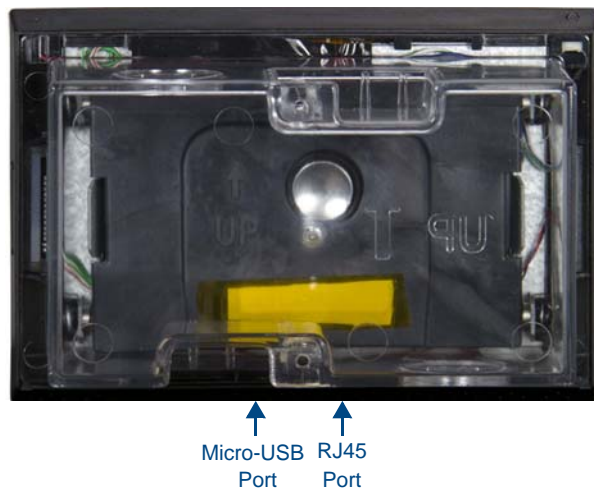

FIG. 11 Rear of the MSD-431-L
9. Insert each connector into its corresponding location along the back of the device (FIG. 11).